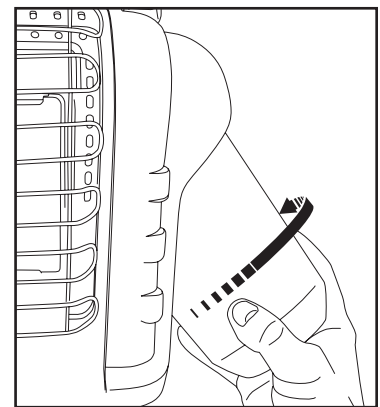

Figure 2: Attach fuel tank
- Swivel regulator outward for easy tank installation. Screw 1 lb. disposable LP-gas supply cylinder clockwise (from bottom) into portable heater until hand-tight; see Figure 2.